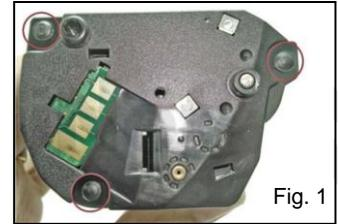

Fig. 1
1) Chip replacement: Before you start, place a sheet of paper over the green (or blue) drum to avoid touching it. Then place a rubber band around the cartridge to keep the paper in place over the drum AND to keep the cartridge from separating while the side cover is being modified. To begin the modification, cut off the heads of the three rivets on the chip side of the cartridge using an X-acto knife or box cutter knife (Fig. 1&2).